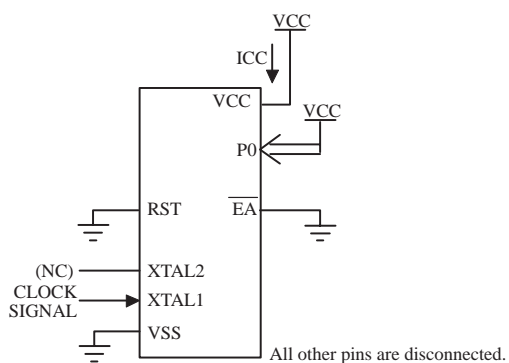

Figure 9 ICC Test Condition, Idle Mode
- Idle ICC is measured with all output pins disconnected; XTAL1 driven with TCLCH, TCHCL = 5ns, VIL = V_{SS} + 0.5V, VIH = V_{CC} - 0.5V; XTAL2 N.C.; Port 0 = V_{CC}; $\overline{\text{EA}}$ = RST = V_{SS} (see Figure 9).